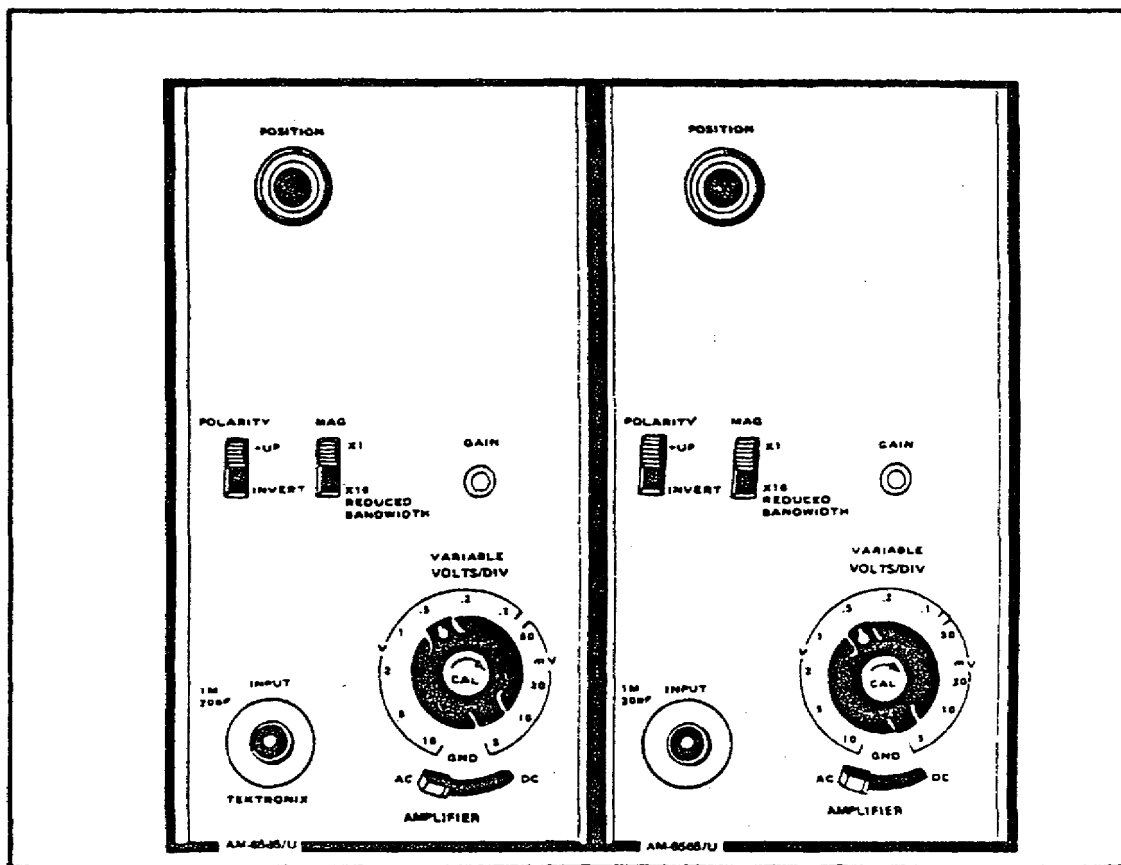

FIGURE 98. VERTICAL AMPLIFIER CONTROLS.
(2) *VERTICAL AMPLIFIERS*. Two are shown in figure 98 on the following page.